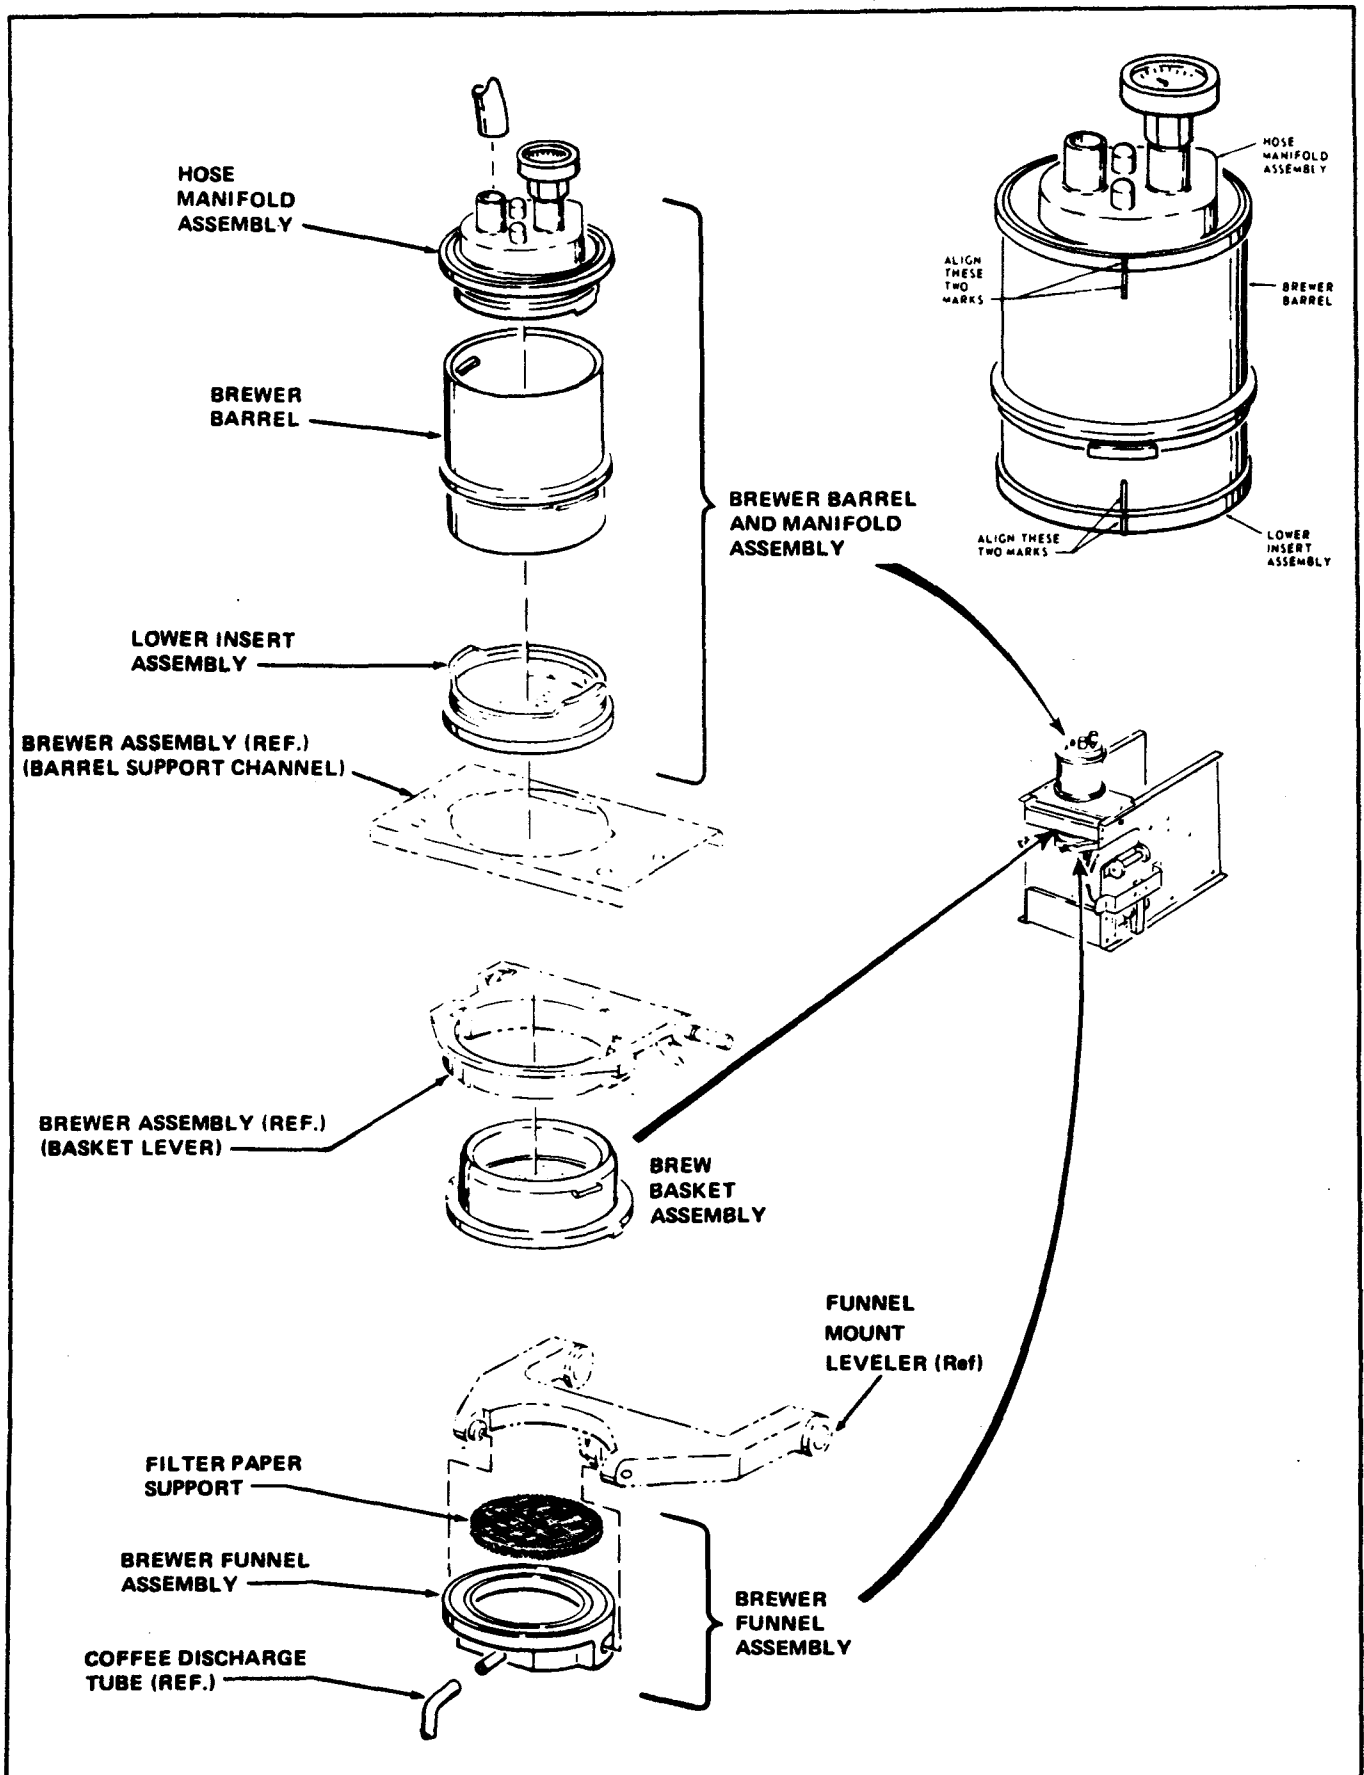

Figure 3-19. Brewer Barrel, Manifold, Basket, and Funnel Assembly
2. Rotate the Brewer Barrel and Manifold Assembly 1/4 turn **CLOCKWISE** to align the flanges on the barrel with slots in the frame. See Figure 3-19.
- a. Place the Brewer Barrel into the Hose Manifold and rotate 1/4 turn **COUNTERCLOCKWISE** to align the position indicator groove in the barrel in with the position indicator groove in the manifold. See Figure 3-19.
- b. Place the Lower Insert Assembly on to the Brewer Barrel and rotate 1/4 turn **COUNTERCLOCKWISE** to align the position indicator groove in the insert with the position indicator in the barrel. See Figure 3-19.